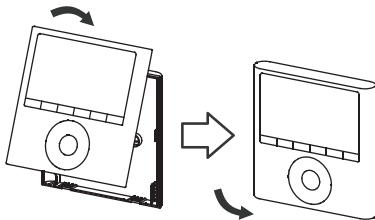

Fig. 13 — 4 - Buckle the upper case
1. While adjusting and mounting the upper case, avoid clamping the wiring during installation (see Fig 13).